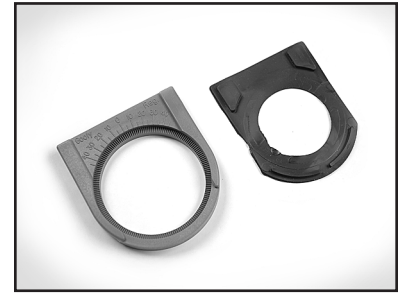

FIGURE 4
2.) Place the rubber gaskets onto bottom of all 4 Nylon Location Blocks or as we call them - Pucks. (See Figure 4)